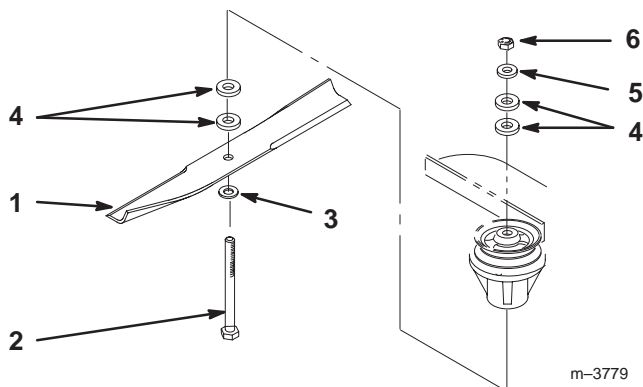

Figure 23
2. Remove the nut, blade bolt, cone washer, blade, spacers, and thin washer from the spindle (Fig. 23).
1. Place the blade onto the bolt and over the cone washer. Select the proper number of spacer(s) for the height-of-cut, and slide the bolt into the spindle (Fig. 23).
2. Install the remaining spacer(s) and secure them with a thin washer and a nut (Fig. 23).